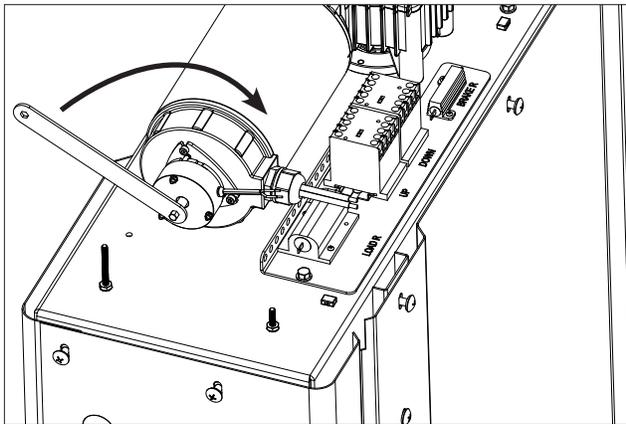

Figure 3-5
4. The wrench fits over the $\frac{1}{4}$ " hex shaft at the end of the drive motor. It is designed to be rotated by hand — clockwise, which will turn the screw and lower the platform. *See Figure 3-5.*